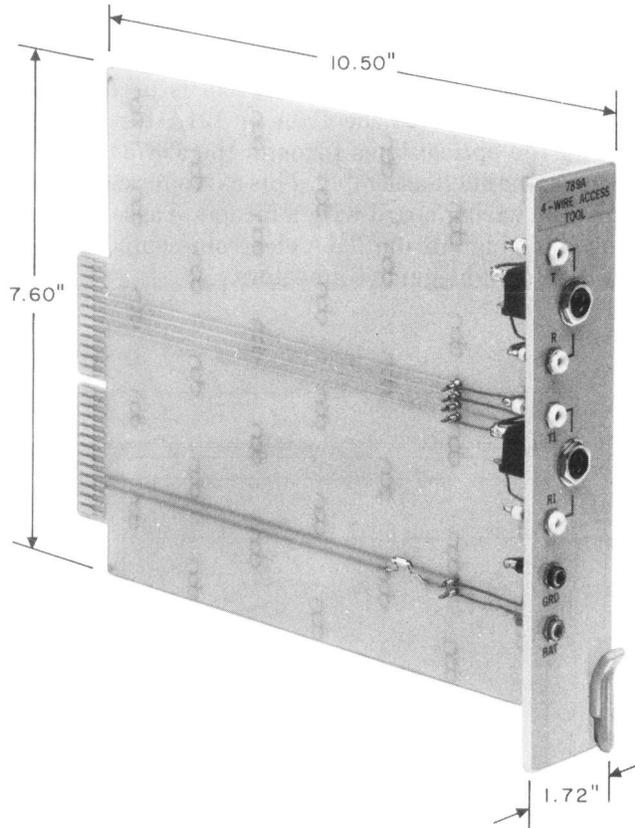

Fig. 7—789A Extender Tool
2.16 789A: The 789A extender tool (Fig. 7) is arranged for insertion into a 940A connector. This extender provides access to the 4-wire T, R, and T and R leads when inserted for testing purposes.